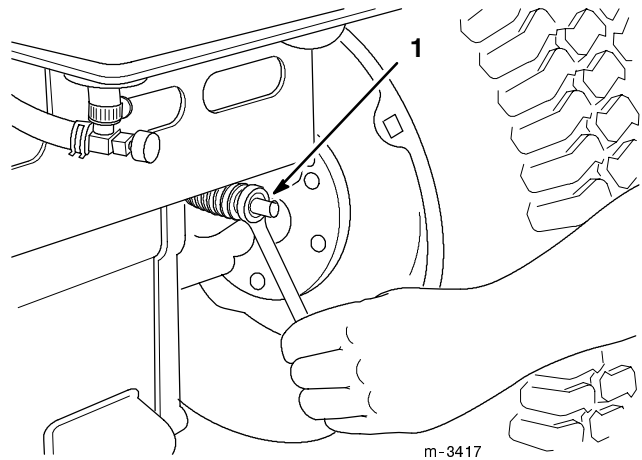

Figure 36
The brake adjustment is at the rear of the tractor (Fig. 36). If the parking brake does not hold securely, an adjustment is required.
4. Turn the brake adjustment nut (Fig. 36) until there is 2” (51 mm) of free travel.